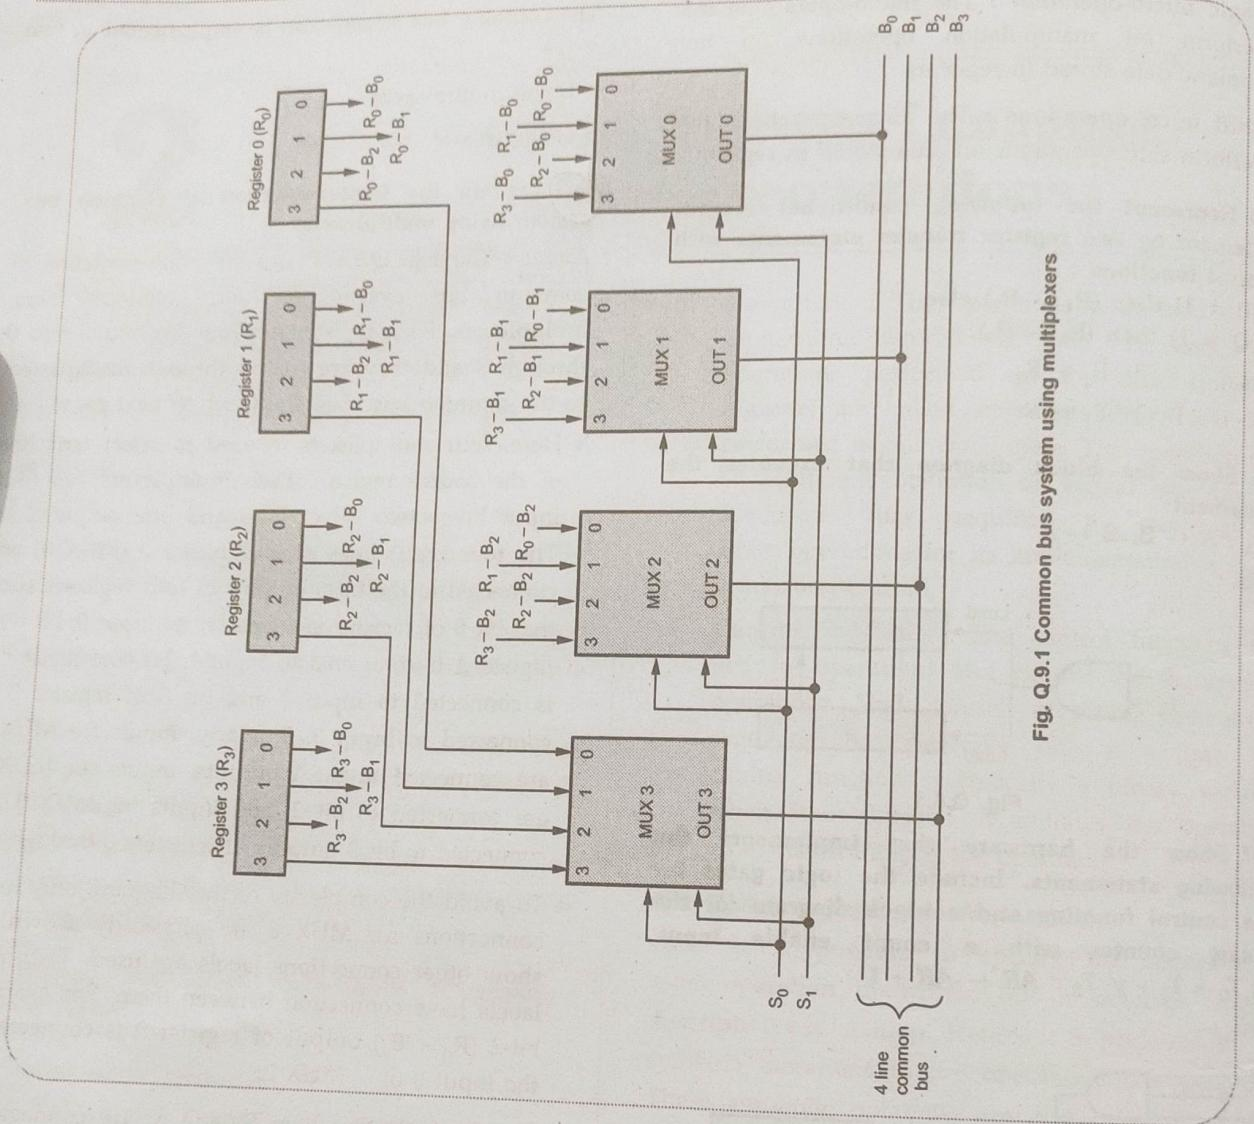

Fig. Q.9.1 Common bus system using multiplexers
**Ans. :** • The Fig. Q.9.1 shows the implementation of common bus system for four registers using multiplexers. Each register has four bits, numbered 0 through 3 and they are routed through multiplexers to the common bus. (See Fig. Q.9.1 on next page)